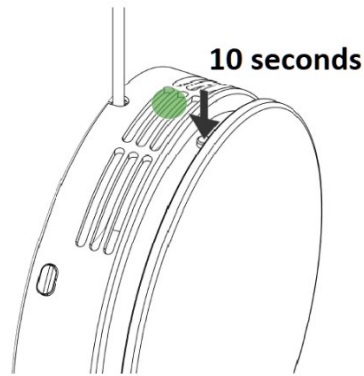

Figure 26 - Resetting the filter indicator
8. When you have conducted a function test, you need to reset the filter alarm. Turn on the unit and push the button down for 10 seconds, see Figure 26. The reset has been completed when a green light is lit for 2 seconds.